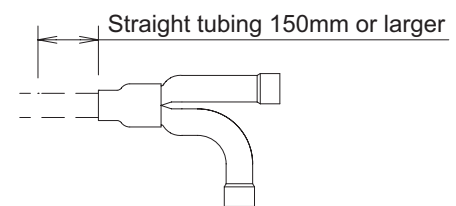

Fig. 2-265
- For branching tubes, install 150mm or larger (including reducer) straight tubing up to the point where the tube branches (or after the point where the tubes join together). (Fig. 2-265)